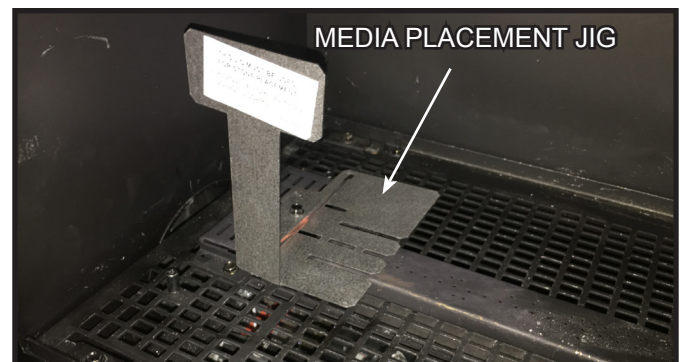

Figure 11.10 Media Placement Jig in Place
2. The included media placement jig, shown in Figure 11.9, MUST be used any time media are placed on the burner to ensure that none end up in the burner lighting area. Verify that the media placement jig is correctly installed in place in the appliance. See Figure 11.10.